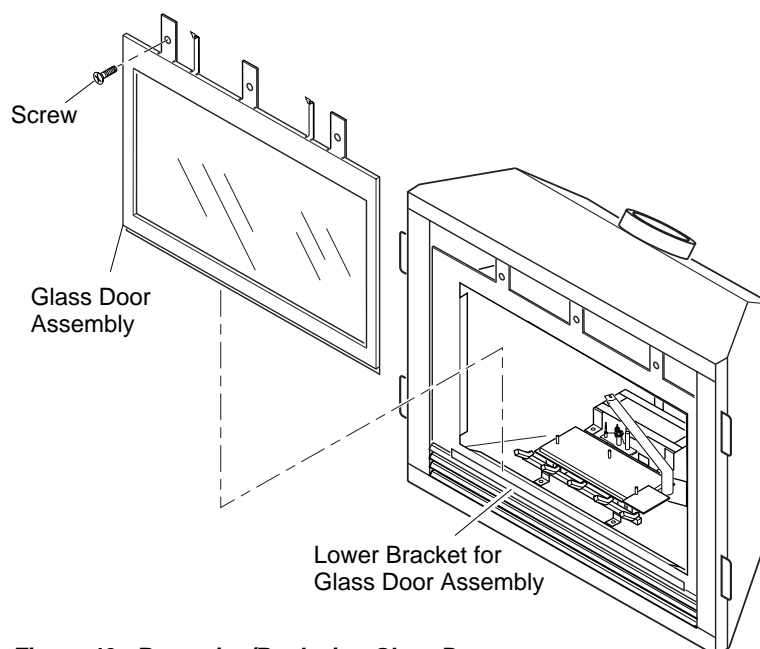

Figure 43 - Removing/Replacing Glass Door
3. Grasp door by both sides and ease it upward off of the lower bracket (see Figure 43).